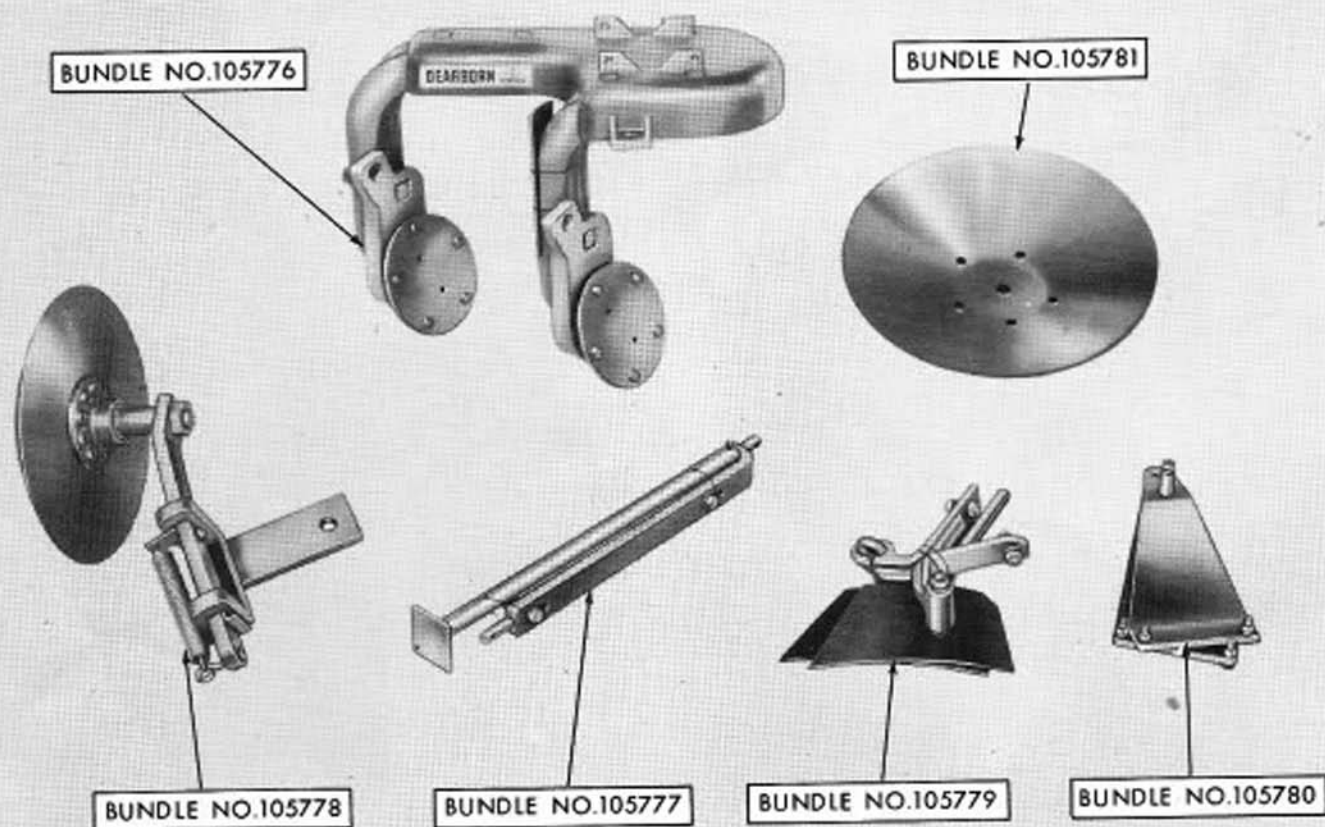

Figure 1
The Dearborn Disc Plow, Models 10-203 and 10-204, is shipped in six bundles as shown in Figure 1. Check the shipment against the following list and Figure 1 to be sure all parts are received.
1. Remove the wires from the bundles and lay out all the parts shown in Figure 1 to facilitate assembly.